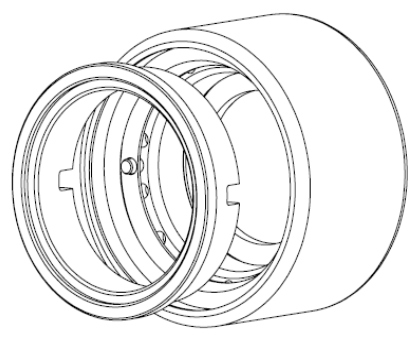
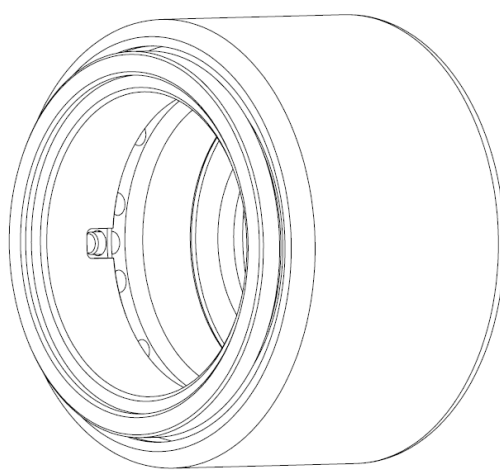

Figure 9
Figure 10
2. Slide the rotating seal into the seal driver making sure to align the pins inside the driver with the slots on the seal. Figure 9. Push the rotating seal half into the seal driver a few times watching the pins fit into the slots of the rotating seal while compressing the seal driver springs. Figure 10.